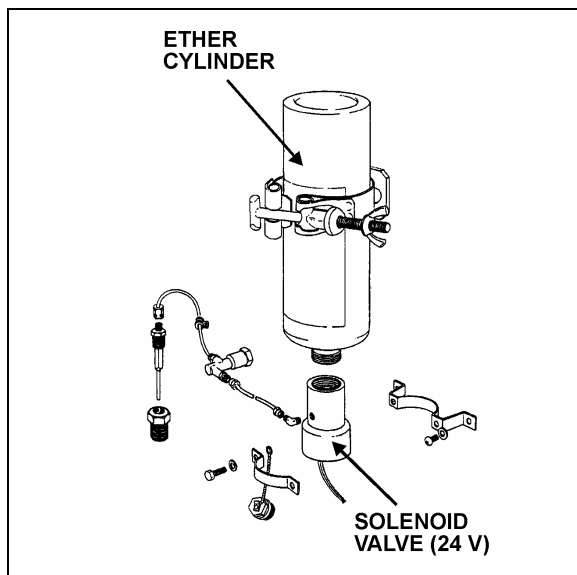

FIGURE 17: COLD STARTING AID
1. Check cylinder for hand tightness and fuel supply (Fig. 17). Empty cylinder weight is approximately 17 oz (480 g); full cylinder weight is approximately 35 oz (990 g). If cylinder is empty, replace it. Before replacing cylinder, install new valve gasket in solenoid valve.